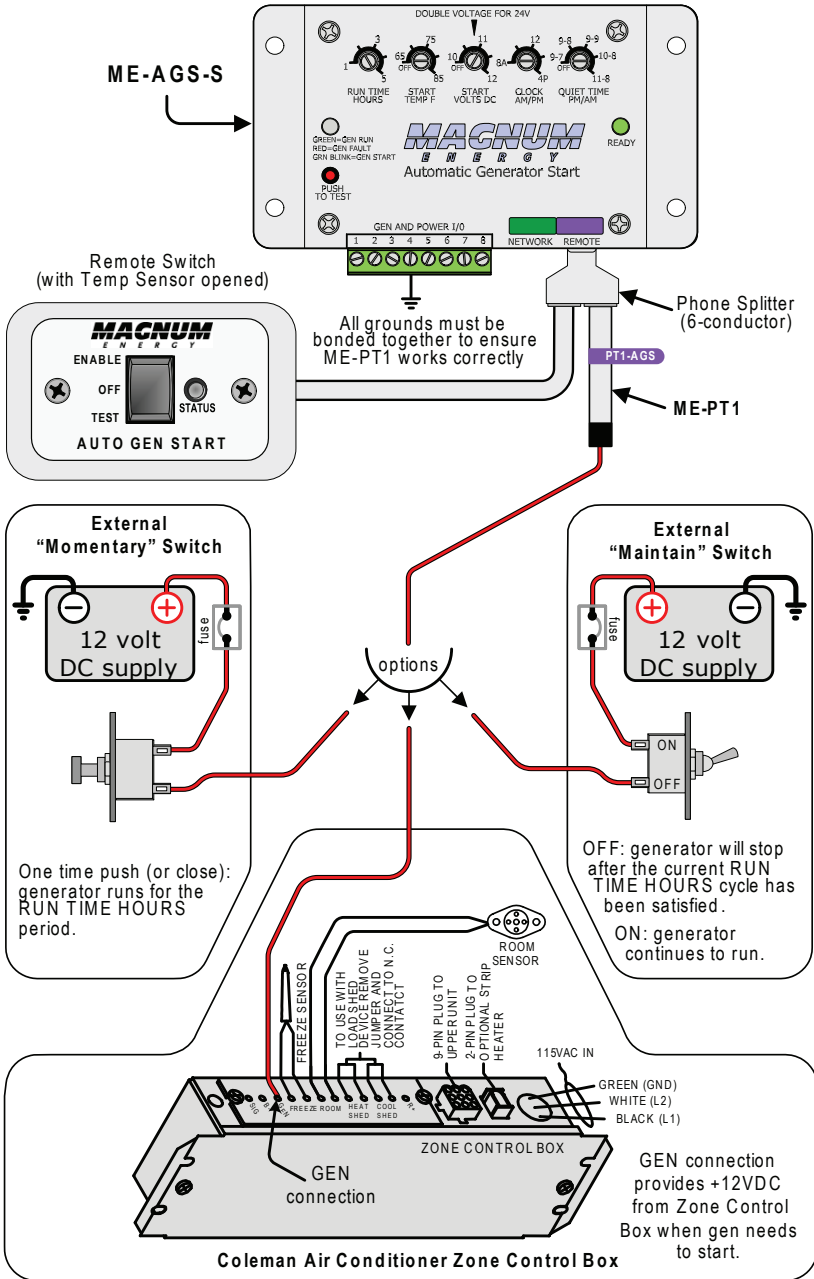

Figure 5, ME-PT1 to ME-AGS-S Installation
- Refer to figure 5 for the following steps to install the ME-PT1: